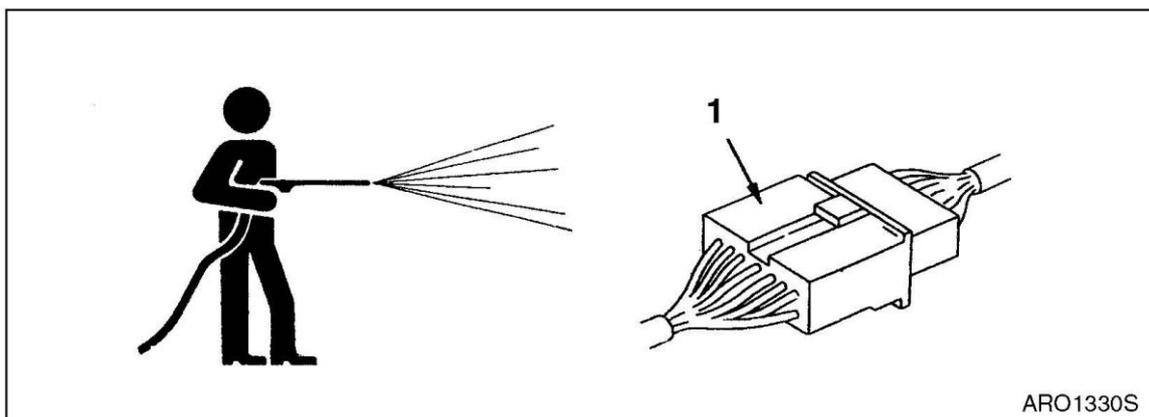

Figure 23
- Do not spray water directly on electrical components (sensors, connector) (1, Figure 23). If water gets into the electrical system, there is danger that it will cause defective operation and malfunction.